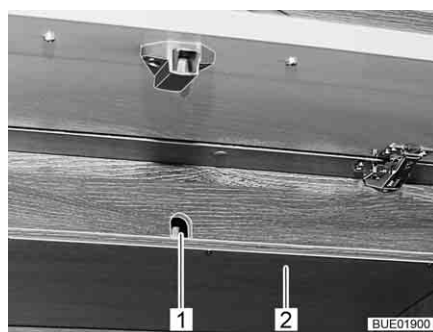

Fig. 177 Flap on the wall-mounted cupboard
- Remove the cover (Fig. 177,2) underneath the access opening (Fig. 177,1) for the crank.